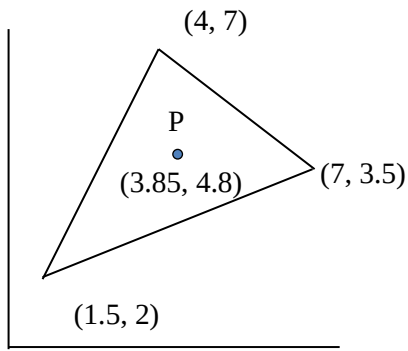

Figure 6 (Q-5b)
- (b) Evaluate the shape functions  $N_1$ ,  $N_2$  and  $N_3$  at the interior point P for the triangular element as shown in figure 6. 04